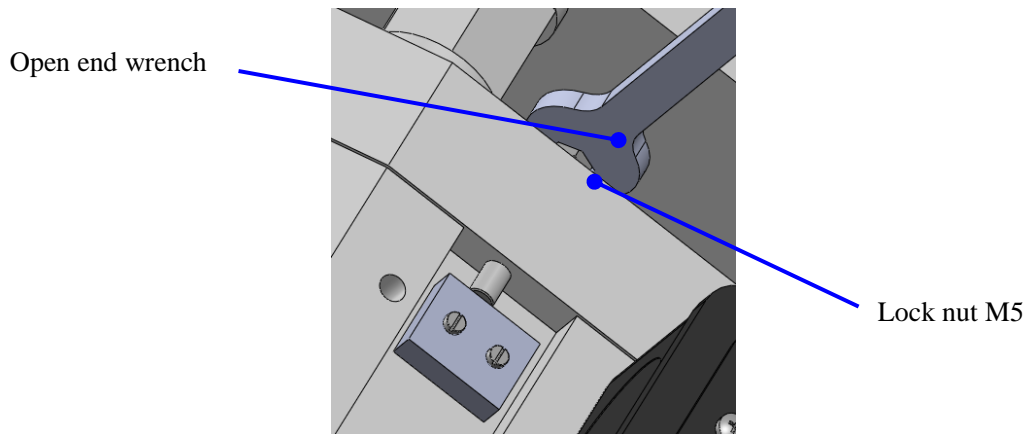

Figure 50: Brake switch adjustment
1. Use the open end wrench 8mm to loose the lock nut M5. See Figure 50.